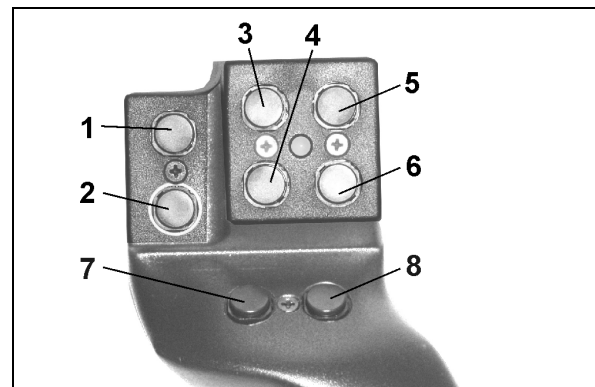
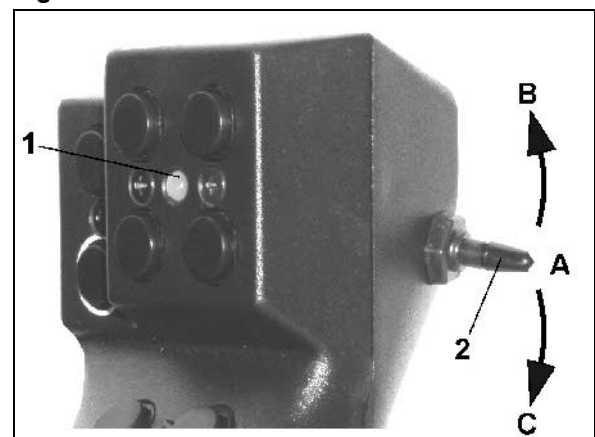

Fig. 92
Fig. 93
For the actuation of **AMATRON**⁺ the joystick (Fig. 92) provides 8 keys (1 – 8). In addition the coverage of the keys can be changed 3 times by the switch (Fig. 93/2).
-  mid position (Fig. 93/A) and can be moved
-  upwards (Fig. 93/B) or
-  downwards (Fig. 93/C).
The position of the switch is indicated by a LED light (Fig. 93/1).